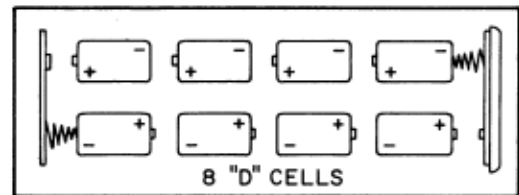

Figure 2. Battery Installation Diagram
g. Do not replace front cover at this time. Observe battery installation decal or figure 2 and install eight (8) size 'D' cells as shown. Secure lower end plate in place temporarily with the single screw to secure batteries in place and complete the battery circuit.